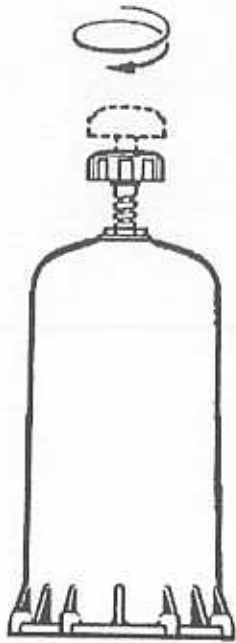

FIG. 9
- Screw the by-pass knob halfway down (Fig. 9).